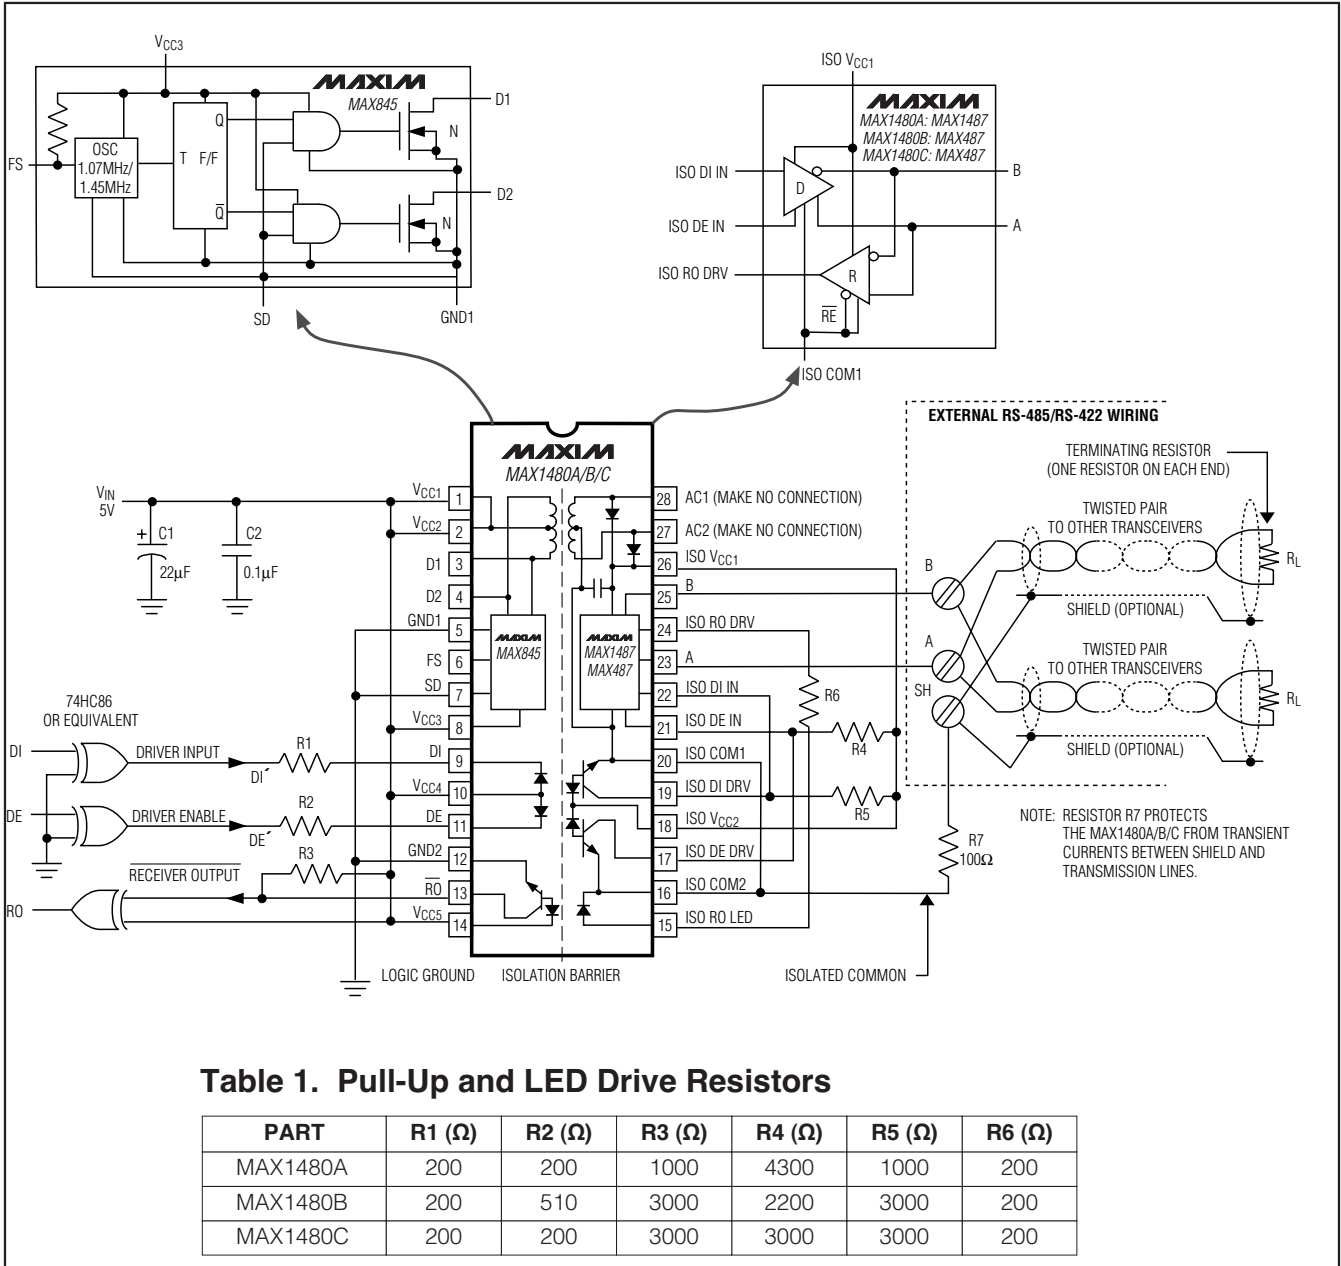
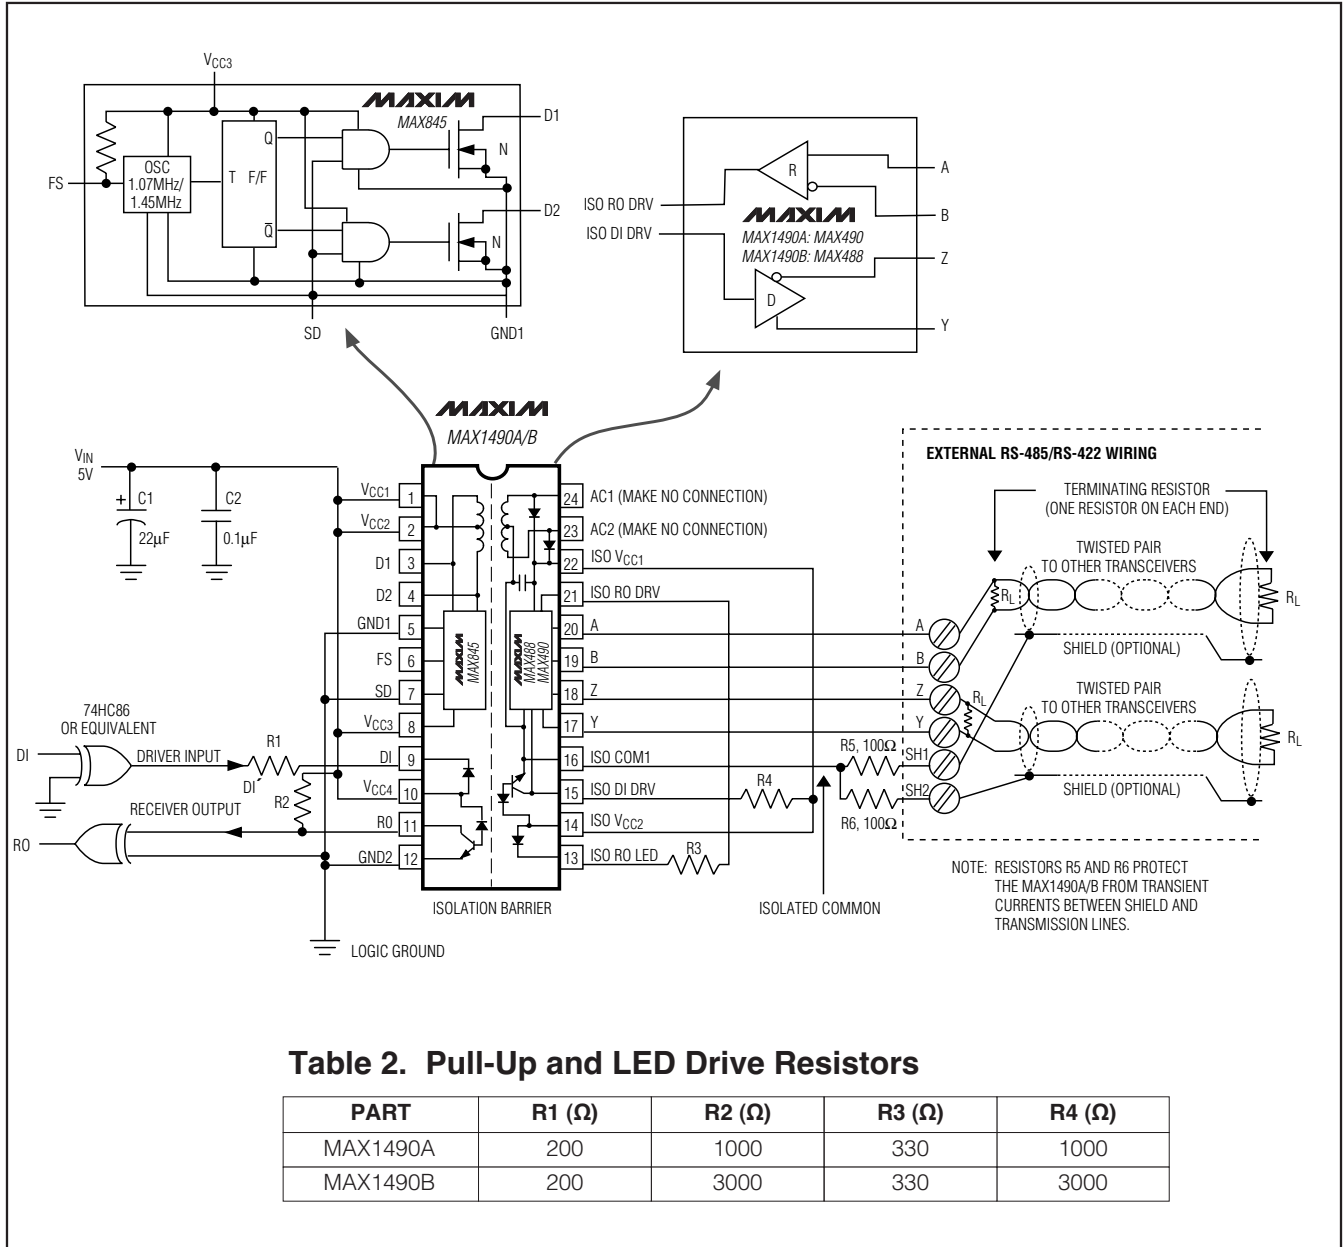

Figure 1. MAX1480A/MAX1480B/MAX1480C Detailed Block Diagram and Typical Application Circuit
Figure 2. MAX1490A/MAX1490B Detailed Block Diagram and Typical Application Circuit
**Note 2:** For DE' and DI' pin descriptions, see *Detailed Block Diagram and Typical Application Circuit* (Figure 1 for MAX1480A/MAX1480B/MAX1480C, Figure 2 for MAX1490A/MAX1490B).
**Note:** For DE+ and DI+ pin descriptions, see *Detailed Block Diagram and Typical Application Circuit* (Figure 1 for MAX1480A/B/C, Figure 2 for MAX1490A/B).
The MAX1480A/MAX1480B/MAX1480C/MAX1490A/MAX1490B are complete, electrically isolated, RS-485/RS-422 data-communications interface solutions. Transceivers, optocouplers, a power driver, and a transformer in one standard 28-pin DIP package (24-pin for the MAX1490A/B) provide a complete interface. Signals and power are internally transported across the isolation barrier (Figures 1, 2). Power is transferred from the logic side (nonisolated side) to the isolated side of the barrier through a center-tapped transformer. Signals cross the barrier through high-speed optocouplers. A single +5V supply on the logic side powers both sides of the interface. The MAX1480A/B/C offer half-duplex communications while the MAX1490A/B feature full-duplex communication. The functional input/output relationships are shown in Tables 3–6.
\* For DE' and DI' pin descriptions, see *Detailed Block Diagram and Typical Application Circuit* (Figure 1 for MAX1480A/B/C, Figure 2 for MAX1490A/B).
The MAX1480A/MAX1480B/MAX1480C/MAX1490A/MAX1490B are specified and characterized using the resistor values shown in Table 1 of Figure 1 and Table 2 of Figure 2. Altering the recommended values can degrade performance.
The isolated common may be completely floating with respect to the logic ground and the effective network ground. The receiver input resistors will cause the isolated common voltage to go to the mean voltage of the receiver inputs. If using shielded cable, connect the isolated common to the shield through a 100Ω resistor. In the case of the MAX1490, each shield should have its own 100Ω resistor (Figures 1, 2, 13, and 14).